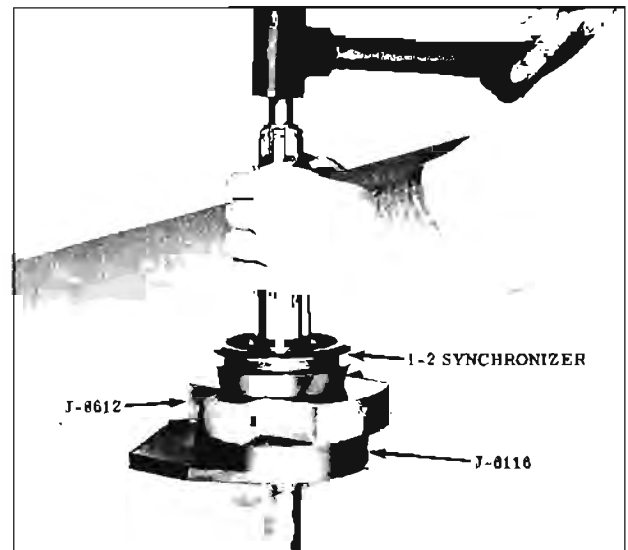

Fig. 11-239 1-2 Synchronizer Installation
1. With the wide taper of the 1-2 synchronizer sleeve towards the rear of the main shaft, slide the synchronizer assembly onto the main shaft. (Fig. 11-239)
2. Place the rear of the main shaft through the small opening side of tool J-8612 and using a lead or bronze hammer, tap the main shaft to position the synchronizer hub against the shoulder on the main shaft. (Fig. 11-239)